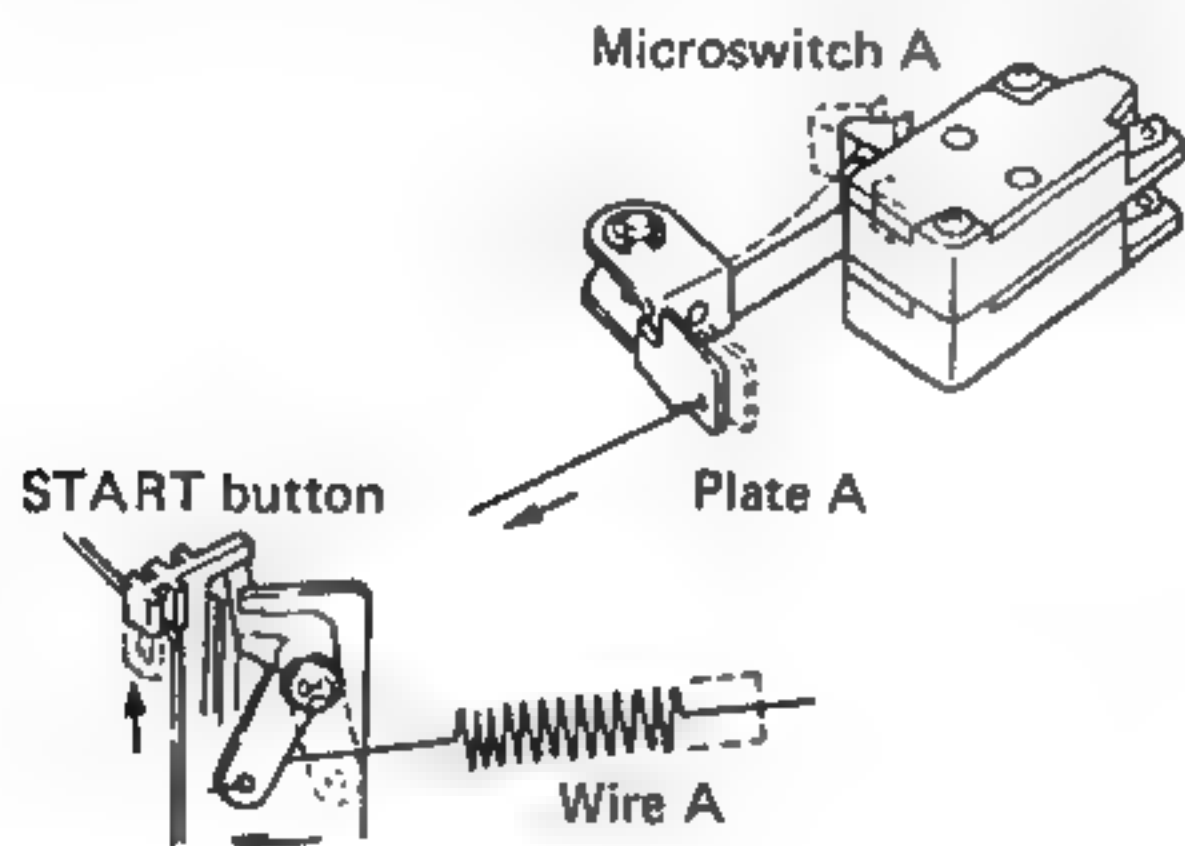

Fig. 1
1. When START button is pressed, wire A pulls plate A and sets microswitch A to ON (Fig. 1).